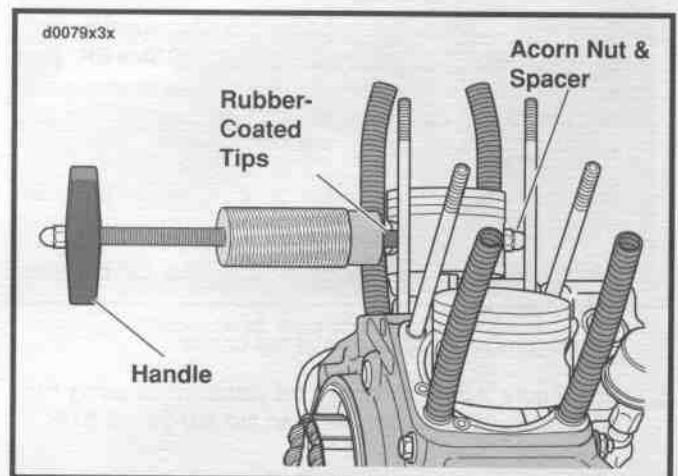

Figure 3-33. Piston Pin Remover/Installer
7. See Figure 3-33. If piston pin is difficult to remove, use PISTON PIN REMOVER/INSTALLER, Part No. HD-42320 as follows:
- See Figure 3-33. Install the piston pin retaining rings with the PISTON PIN RETAINING RING INSTALLER, Part No. HD-34623B. Be sure the ring groove is clean and that the ring is fully seated in the groove with the gap away from the slot at the bottom.